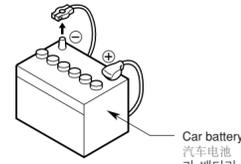

Figure 1 / 图 1 / 그림 1
- Be sure to disconnect the battery "⊖" terminal before starting. This is to prevent short circuits during installation (Figure 1).
- 开始之前请务必断开电池的“⊖”端子，以免在安装中造成短路。（图 1）